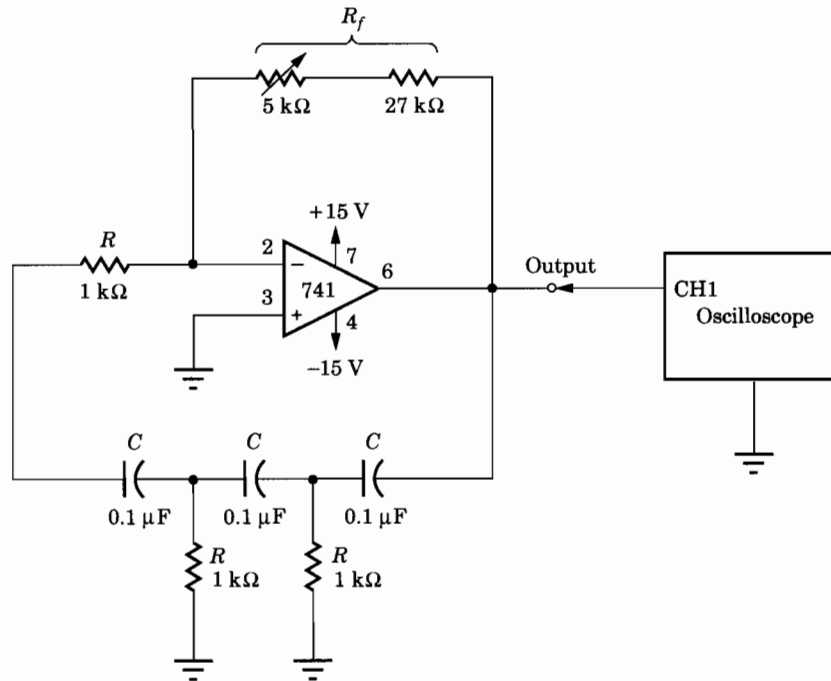

FIGURE 35-1 Schematic diagram of circuit.
1. The RC networks in the oscillator of Figure 35-1 are a form of
5. If the value of the feedback resistor R_f in Figure 35-1 is made less than 29 k Ω ,